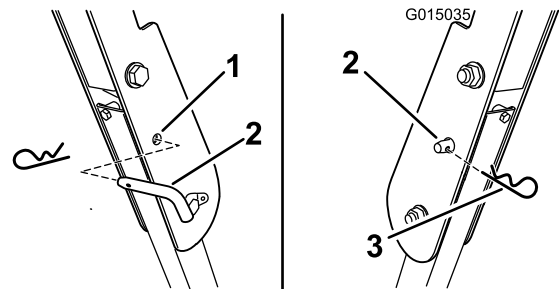

Figure 10
3. Install the locking pins. Secure the pins by installing the hair cotter pin (Figure 10).
4. To lower the roll bar, remove the hair cotter pin and remove the locking pin.(Figure 10).